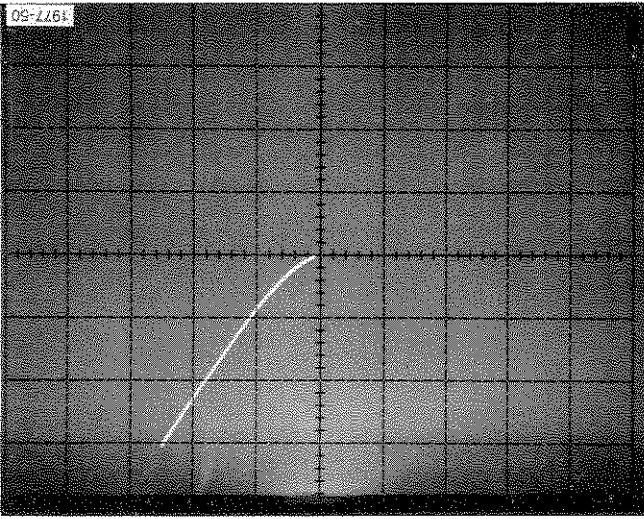

Fig. E-14. Saturation voltage.
b. Check the Saturation Voltage as represented by the crt display. The display should show  $\leq 4$  horizontal divisions from the display zero reference point (see Fig. E-14).